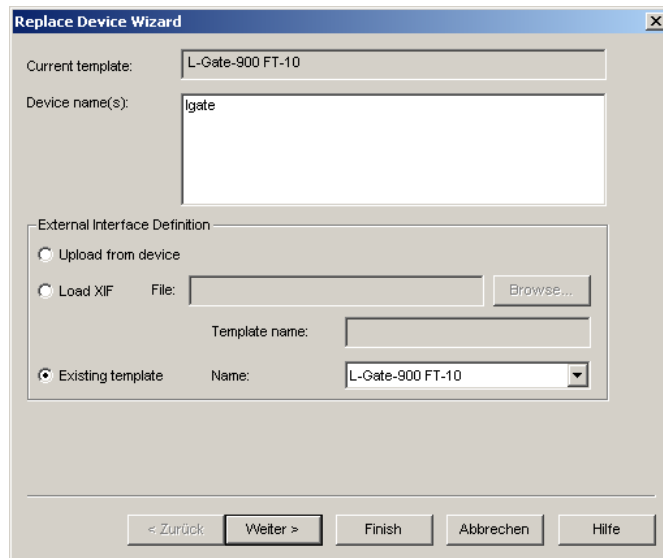

Figure 66: LonMaker replace device wizard.
2. Select **Commissioning** → **Replace....** This opens the LonMaker Replace Device Wizard as shown in Figure 66.